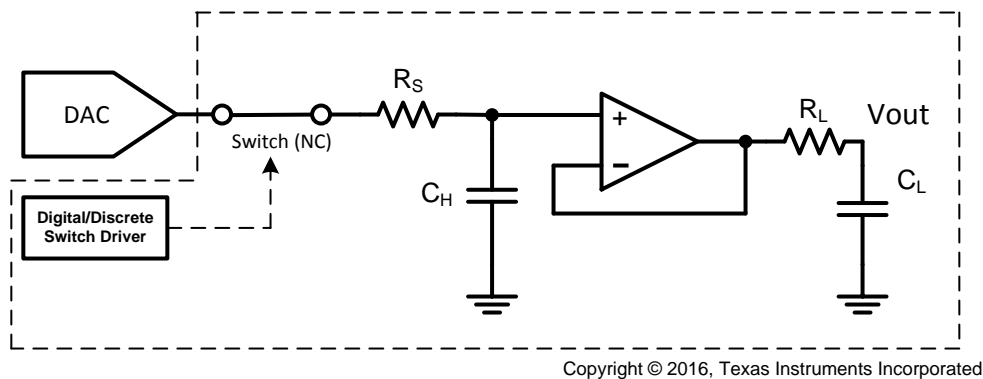

Figure 74. Simplified Sample and Hold Circuit
- In its simplest form, the sample and hold circuit can be constructed from the following components: a capacitive element, output buffer, and switch. A schematic of the simplified S&H is shown in Figure 74.